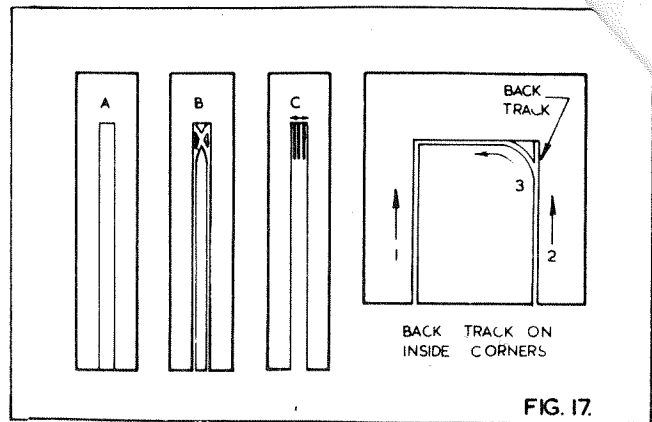

FIG. 17
- (c) **BACKTRACK ON CORNERS** See Fig. 17. Very narrow grooves must be nibbled as shown at A, B, C. On other inside corners, cut to the corner and then backtrack to lead the blade over to second line.